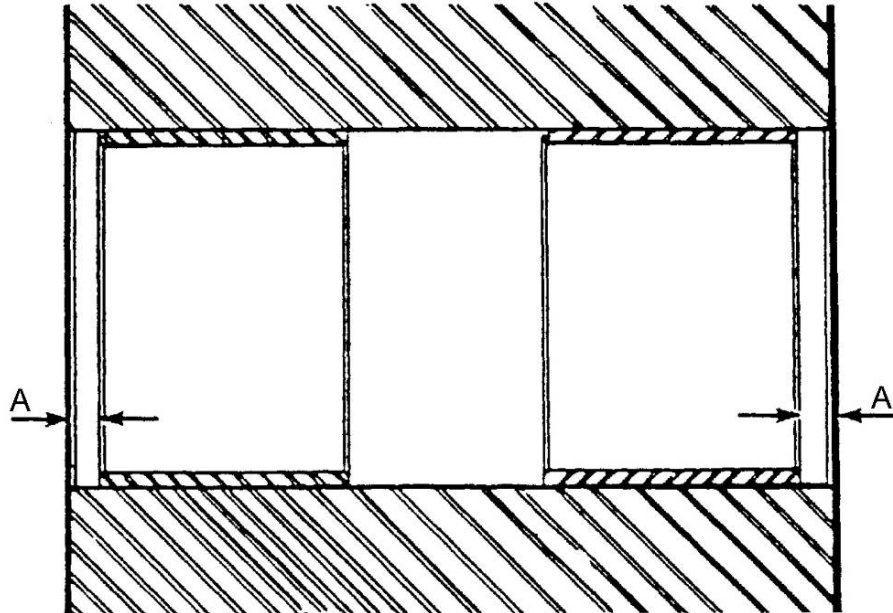

Fig. 14.15. Bushing Installation
1. If replacing bushings, coat 25 [mm] of outer end of idler bore and leading edges of bushing OD with LOCTITE #609. Press bushing in to depth as indicated in Fig. 14.15.
2. Place washer (5) in idler housing bore so it is flat against bushing. Apply a small amount of grease to O-ring (6) and install in groove in retainer (7). Secure retainer (7) to front idler housing (1) and torque bolts 134 [Nm].